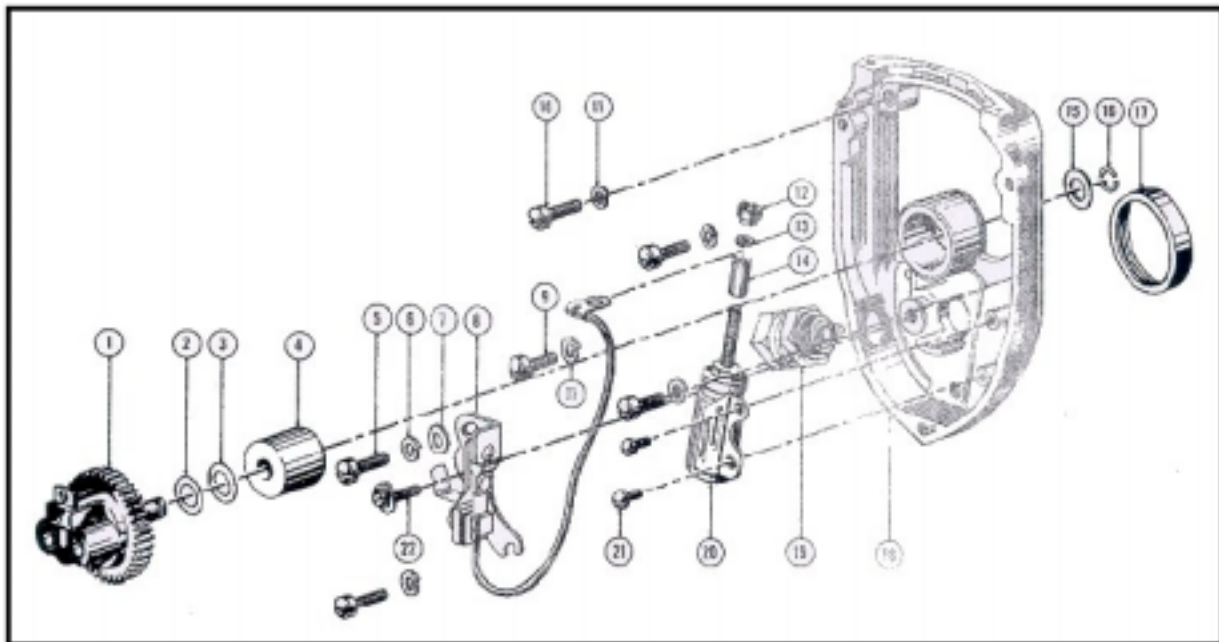
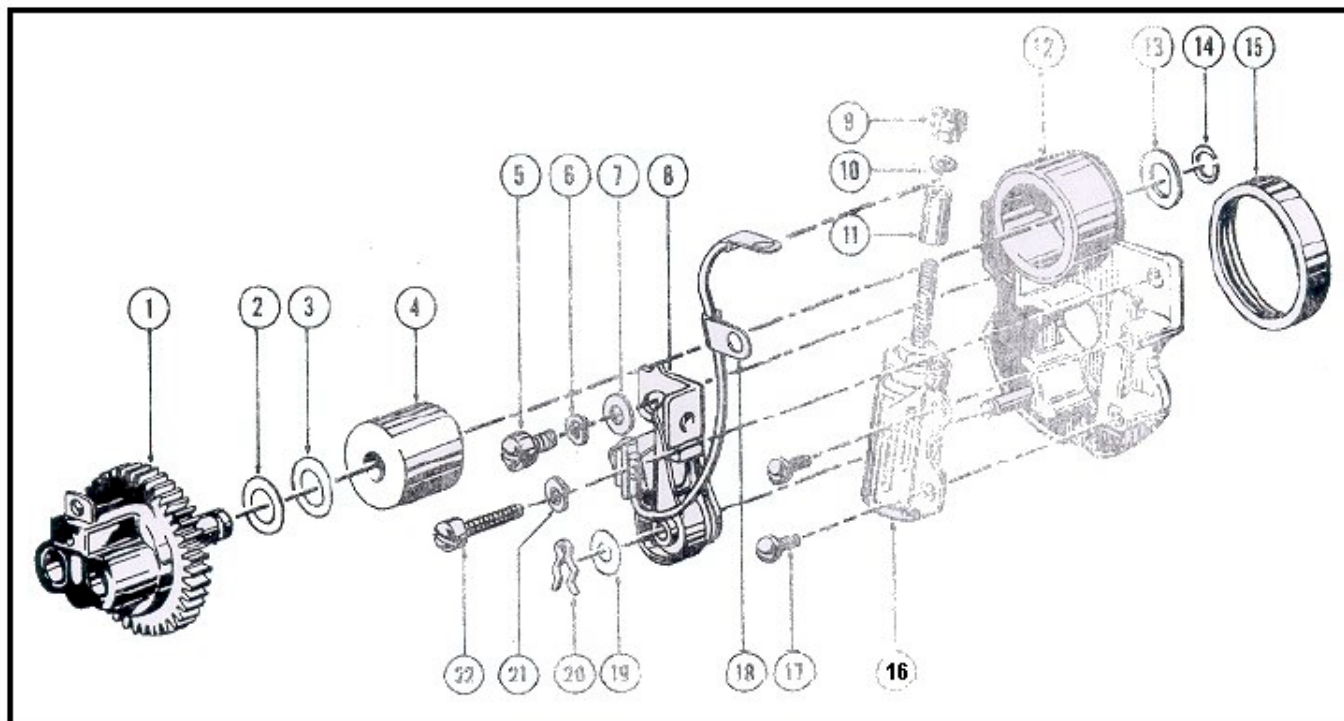
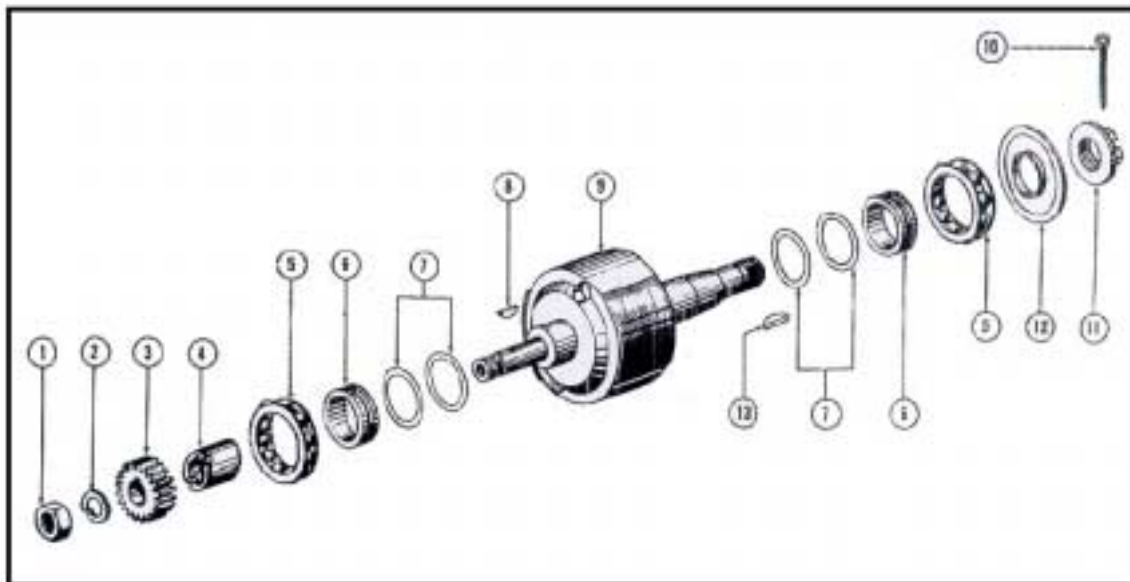

Figure 14. End Plate Assembly, LA Magnetos
Figure 15. End Plate Assembly, AM Magnetos
Figure 17. Rotor Shaft Assembly
Remove the cotter pin (10), and drive nut (11). (See figure 17). Remove the impulse starter from the drive end of the magneto by using puller tool No. H19-946. While performing this operation, exercise caution to avoid allowing the starter spring to jump free.
(See figure 17). Remove the nut (1), lockwasher (2) and pinion gear from the breaker end of the rotor shaft. (See figure 14). Remove the condenser post nut (12) from the condenser terminal post and remove the high tension coil lead from the condenser (20).
(See figure 17). Remove the nut (1), lockwasher (2) and pinion gear (3) from the breaker end of the rotor shaft.
(See figure 15). Remove the condenser post nut (9) from the condenser terminal and remove the high tension coil lead from the condenser (16).
Remove the snap ring (figure 14, ref. 16 and figure 15, ref. 14) from the groove in the distributor gear and rotor shaft by means of a suitable snap ring tool.
Remove the spacer or shim washer (figure 14, ref. 15 and figures 14 and 15) from the inner end of the shaft.
(See figure 17). Remove breaker cam (4) and woodruff key (8) from the breaker end of the magneto rotor shaft.